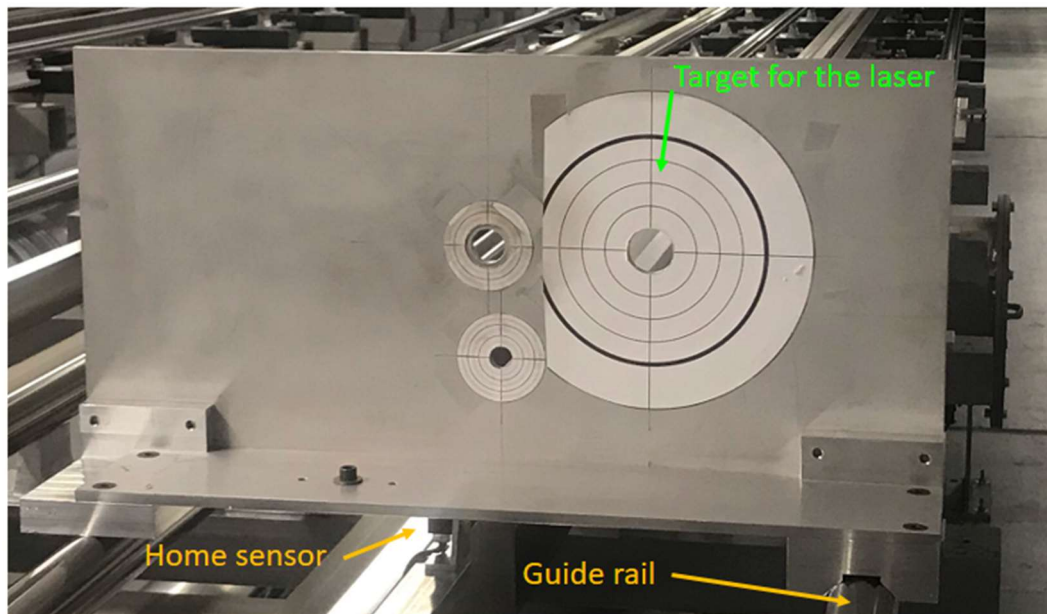

Figure 3. The front side of the front rail target.
2. Place the front rail target on the rail over the home sensor, V-groove on the guide rail (Figure 3).